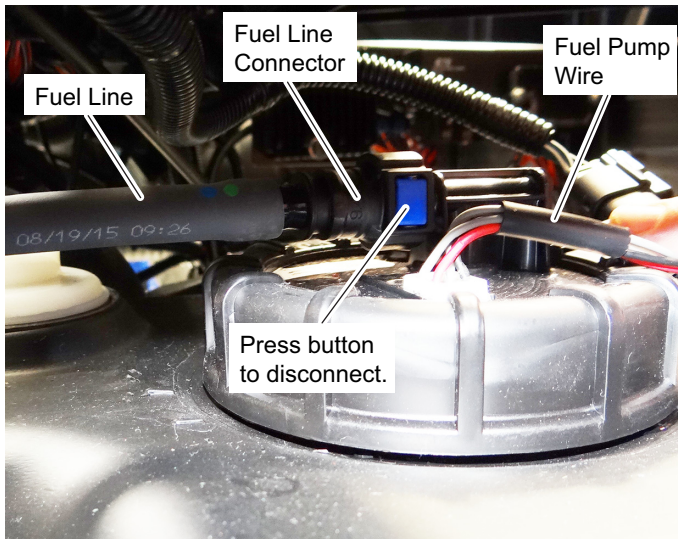

Fig. 2 Fuel Pump Wire
3. Press the tab to disconnect the fuel pump wire located at the top of the fuel tank (See Fig. 2).